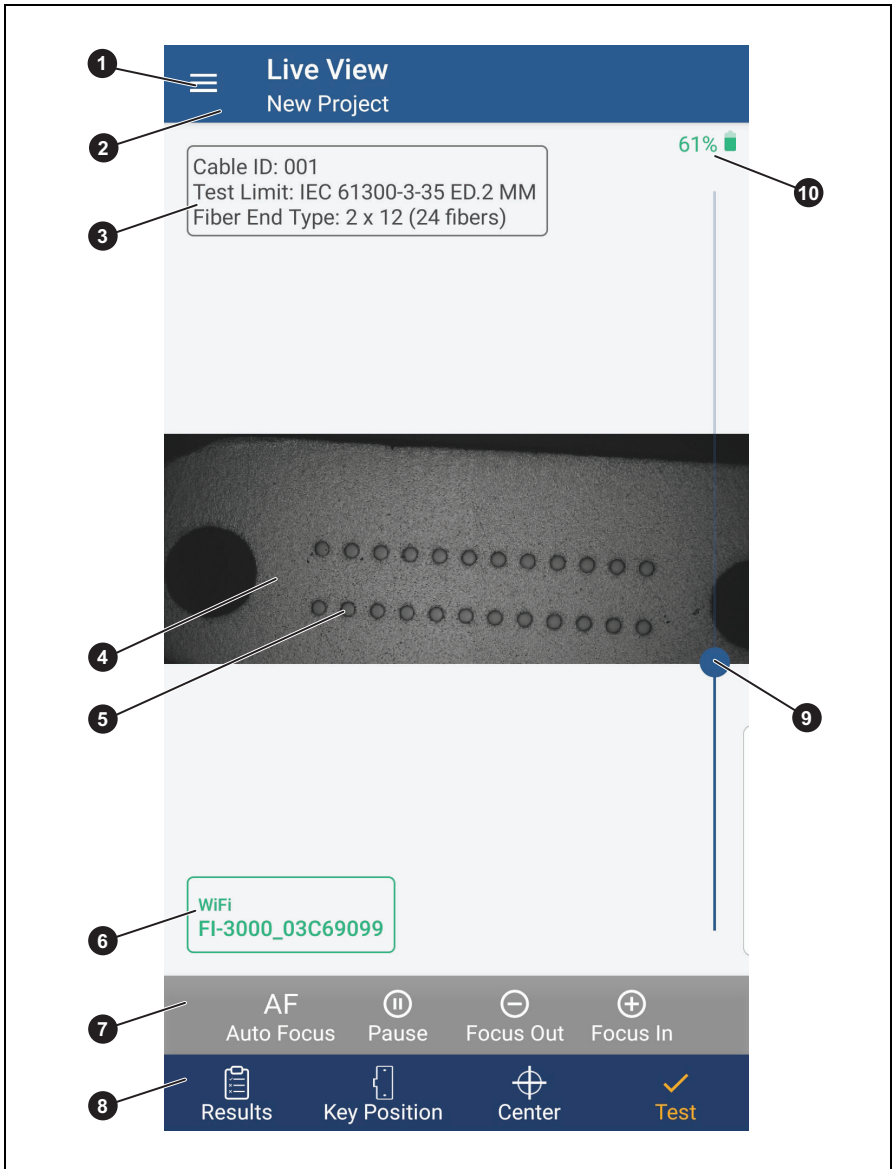

Figure 7. Live View Screen
1. Tap the WiFi Connection Indicator. See Figure 7 and Table 4.
Figure 7 and Table 4 show the features on the Live View or home screen.